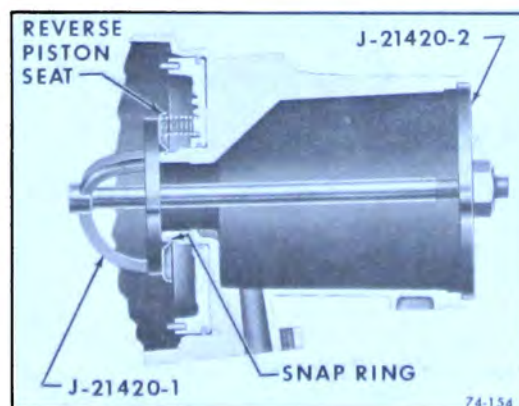

Figure 74-292
6. Using J-21420-1 and J-21420-2 compress piston return seat so snap ring may be installed with J-5586 Pliers. See Figure 74-292.